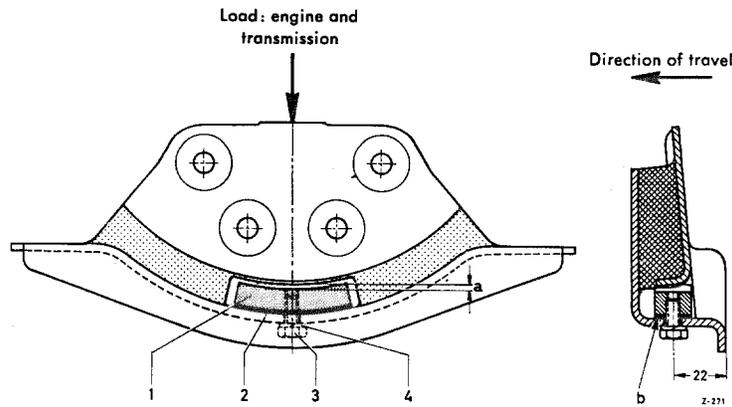

Fig. 24-1/4
Model 219 has an additional stop piece (1) in the rear rubber mounting in order to limit the vertical movement of the engine (Fig. 24-1/4). This stop piece can also be installed subsequently in cars of Model 220 a if complaints are received about a rattling of the gear shift lever and in particular cases about the 3rd and 4th gear slipping out as a result of vertical and horizontal engine movements.
1. Mark out the bore for the hexagon fixing screw for the stop piece as shown in Fig. 24-1/4 and drill with a 6.4 mm  $\phi$  drill.
3. Screw down the stop piece (1) using as many spacer washers (2) as are necessary to produce a distance  $d = 1$  to 2 mm be-